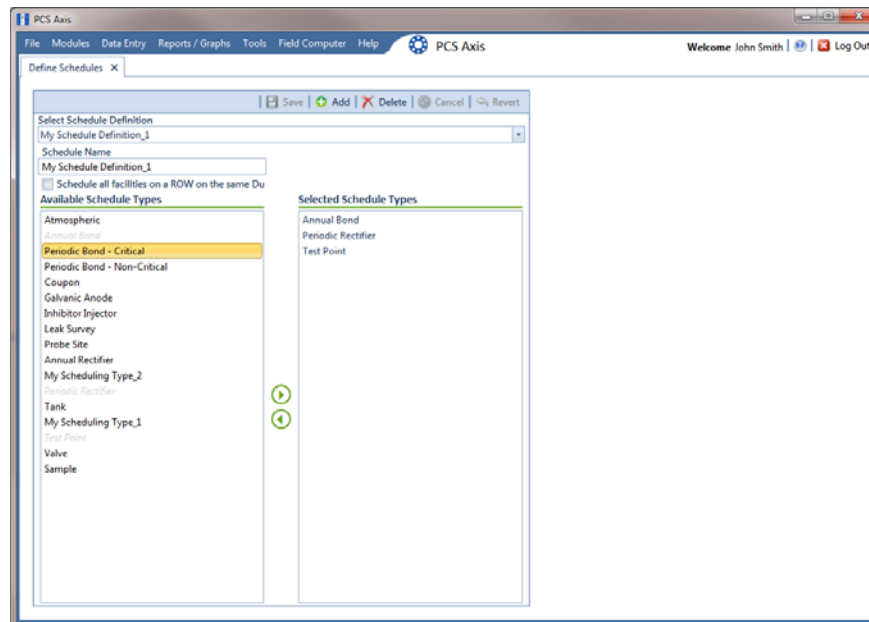

Figure 9-12. Adding a Schedule Definition Addition
- 1 Click **Data Entry** > **Define Schedules** to open the *Define Schedules* window (Figure 9-12).
- 4 Click the top arrow button  to move the schedule type(s) to the *Selected Schedule Types* pane (Figure 9-12). Click  **Save**. The addition is now available in the *Select Schedule Definition* selection list.
- 1 Click **Data Entry > Define Schedules** to open the *Define Schedules* window (Figure 9-12, page 448).